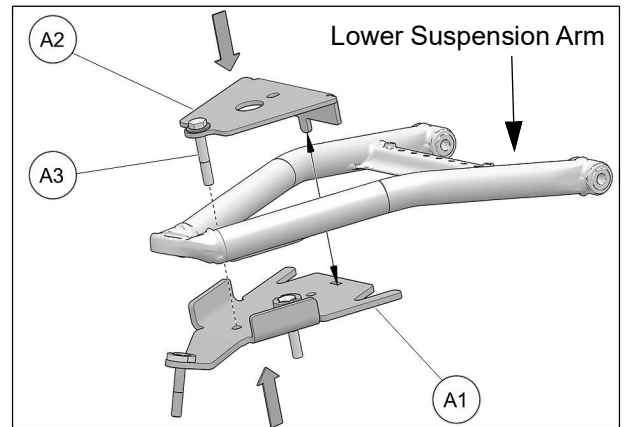

Fig. 22
11. Position cover plate (**A2**) over lower suspension arm. Lift anchor bracket (**A1**) under suspension arm and insert bolt (**A3**) and tenon in matching holes, as shown in the figure below. See Fig. 22